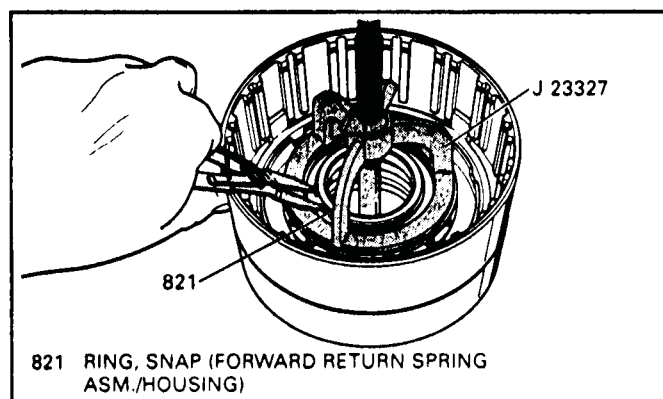

Figure 76
10. Compress return spring assembly using J-23327, and install snap ring in groove as shown in Figure 76.